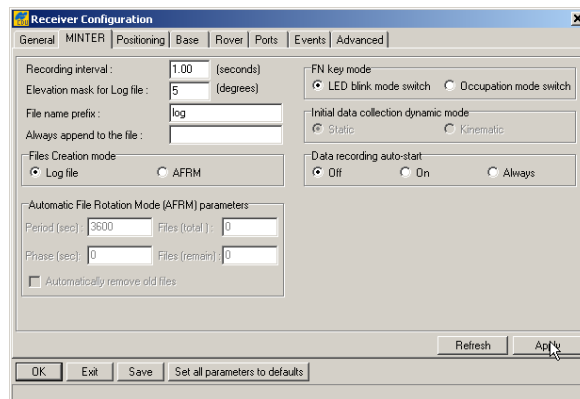

Figure 3-18. Receiver Configuration – MINTER Tab
5. Click **Configuration ▶ Receiver** then click the **MINTER** tab, set the following parameters and click **Apply** (Figure 3-18). See the following pages for descriptions of these parameters.